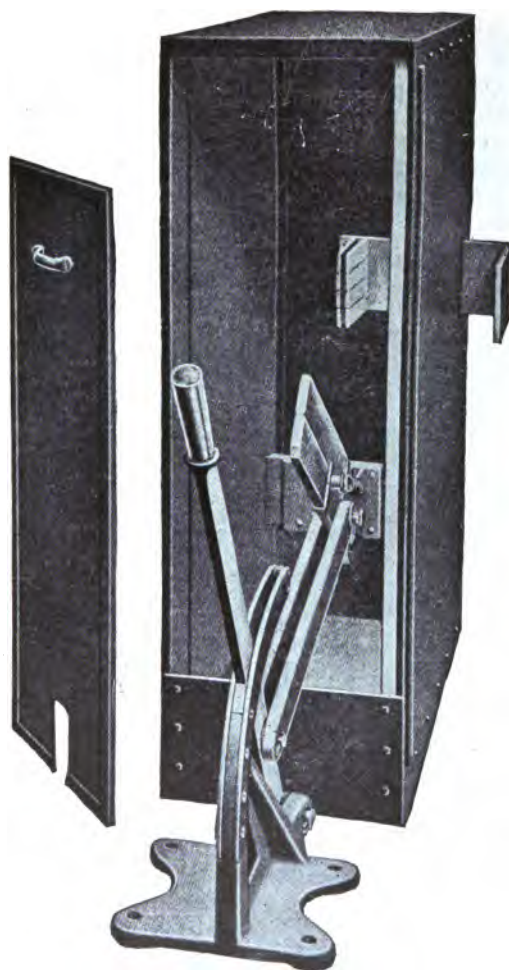

Fig. 507. Main Switch.
51. THE MAIN SWITCH (Fig. 507) is a knife-blade quick-break switch, with a lower mechanism for operating. The switch itself is enclosed in a box, lined